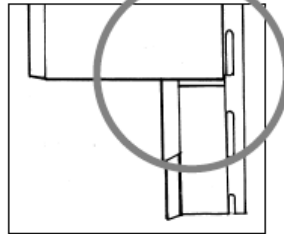

Figure 5
- 3) Cut and remove this area. Continue the crosscut to the edge of the lineal. Widen this cut to make a slit about $\frac{1}{4}$ " wide. (Figure 5)